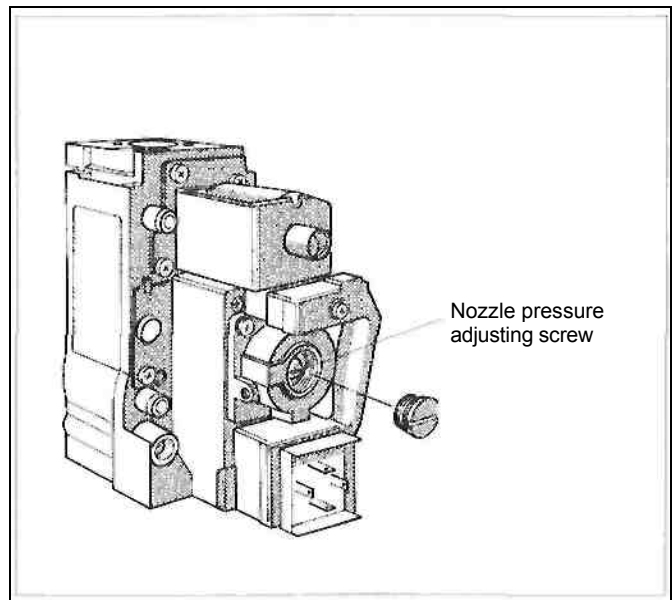

Fig. 13: Nozzle pressure adjusting screw
- Remove the safety screw in front of the burner pressure adjusting screw (Fig. 13).
- Correct the burner pressure by turning the adjusting screw in the plus or minus direction (Fig. 13).
- Remove the safety screw in front of the nozzle pressure adjusting screw (Fig. 13).
- Screw in the nozzle pressure adjusting screw fully (Fig. 13).